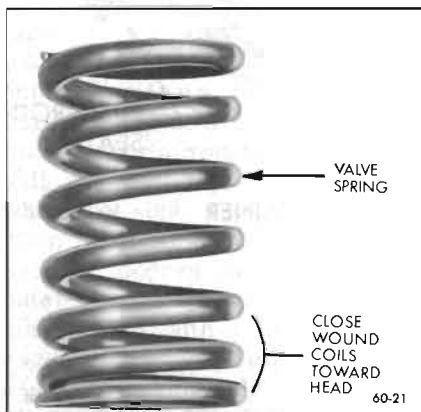

Figure 60-21—Valve Spring
12. Lube with "Service MS" engine oil and reinstall valves, valve springs, cap and cap retainer, using same equipment used for removal. Install valve spring with closely wound coil toward the cylinder head. See Figure 60-21.